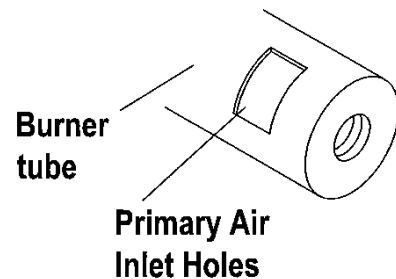

Figure 13-Injector Holder On Outlet Burner Tube
2. Inspect burner, pilot, and primary air inlet holes on injector holder for dust and dirt. (See FIG.13)